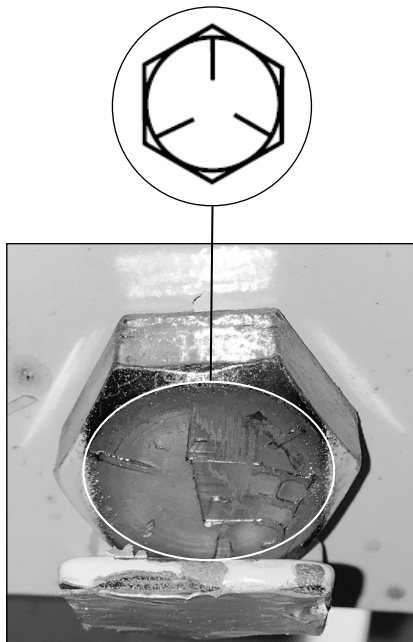

Figure 10 – Grade 5 Head Marking
- A Grade 5 cap screw has three evenly spaced radial lines on the head (refer to Figure 10).